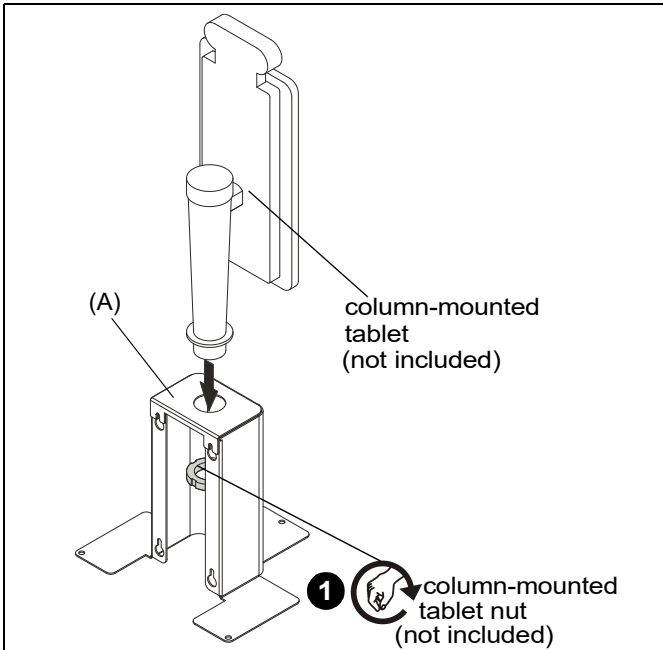

Figure 1
1. Use column-mounted tablet nut (provided with column-mounted tablet) to install column-mounted tablet (not included) to column (A). (See Figure 1)